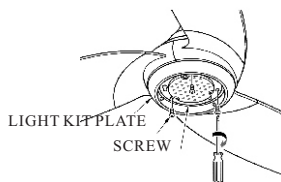

FIG.16
5. Tighten the light kit by using the 3 screws removed in step 3 (see Fig.16)